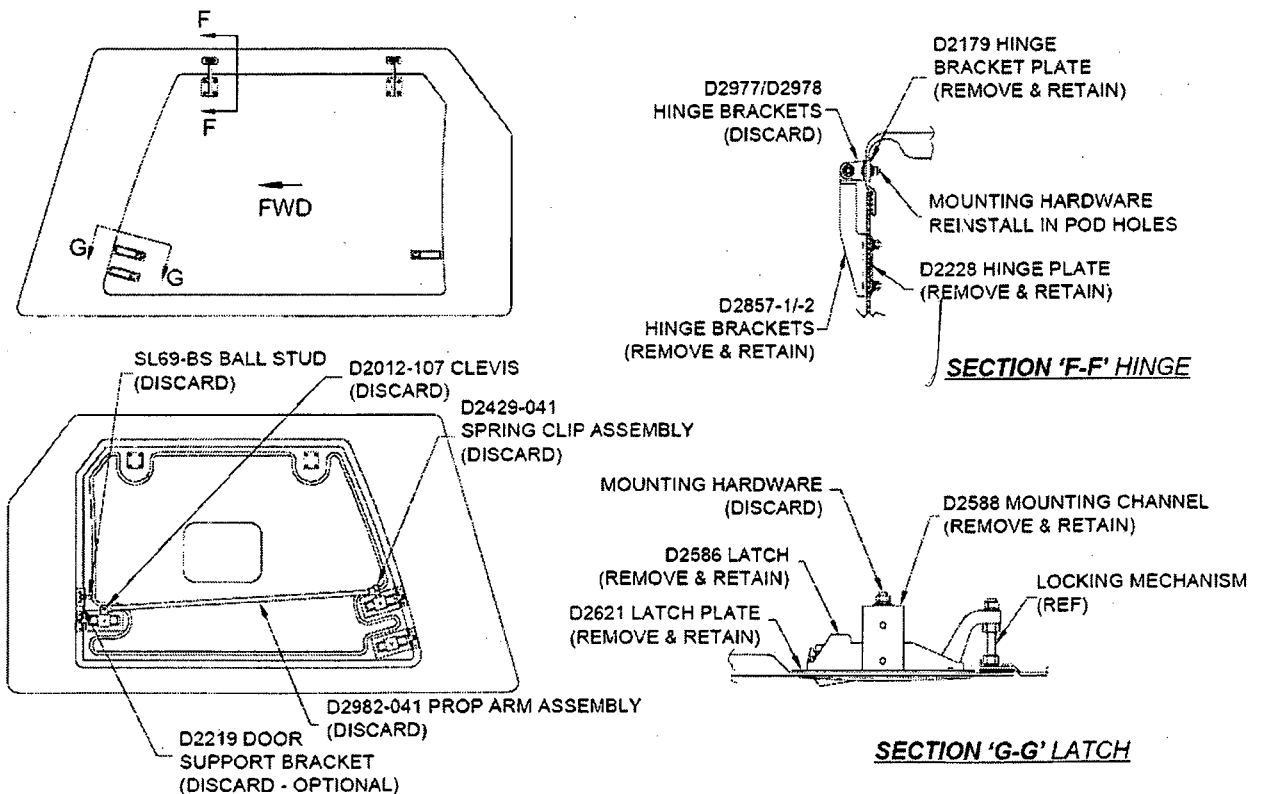
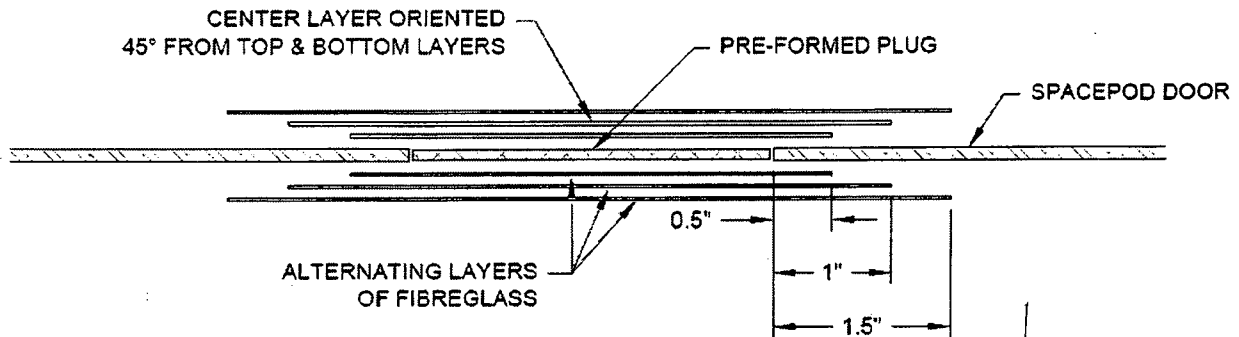

FIGURE 11 – COMPONENT REMOVAL FROM EXISTING SPACEPOD™ KIT
FIGURE 12 – LATCH HOLE REPAIR IN SPACEPOD™ DOOR
- 3.4.2 Remove the following components from the door and pod as shown in Figure 11:
- 3.4.3 Fill each of the two forward latch holes as shown in Figure 12. (Note that it is optional to fill in only the lower latch hole and to leave the latch in the upper latch hole. If this option is chosen, remove the locking mechanism from the latch. Refer to Figure 11).